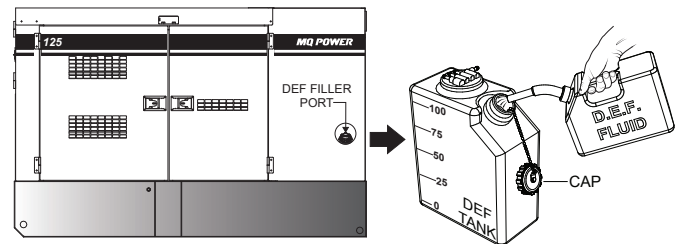

Figure 41. DEF Tank Filling
2. Remove the filler cap from the DEF tank (Figure 41).